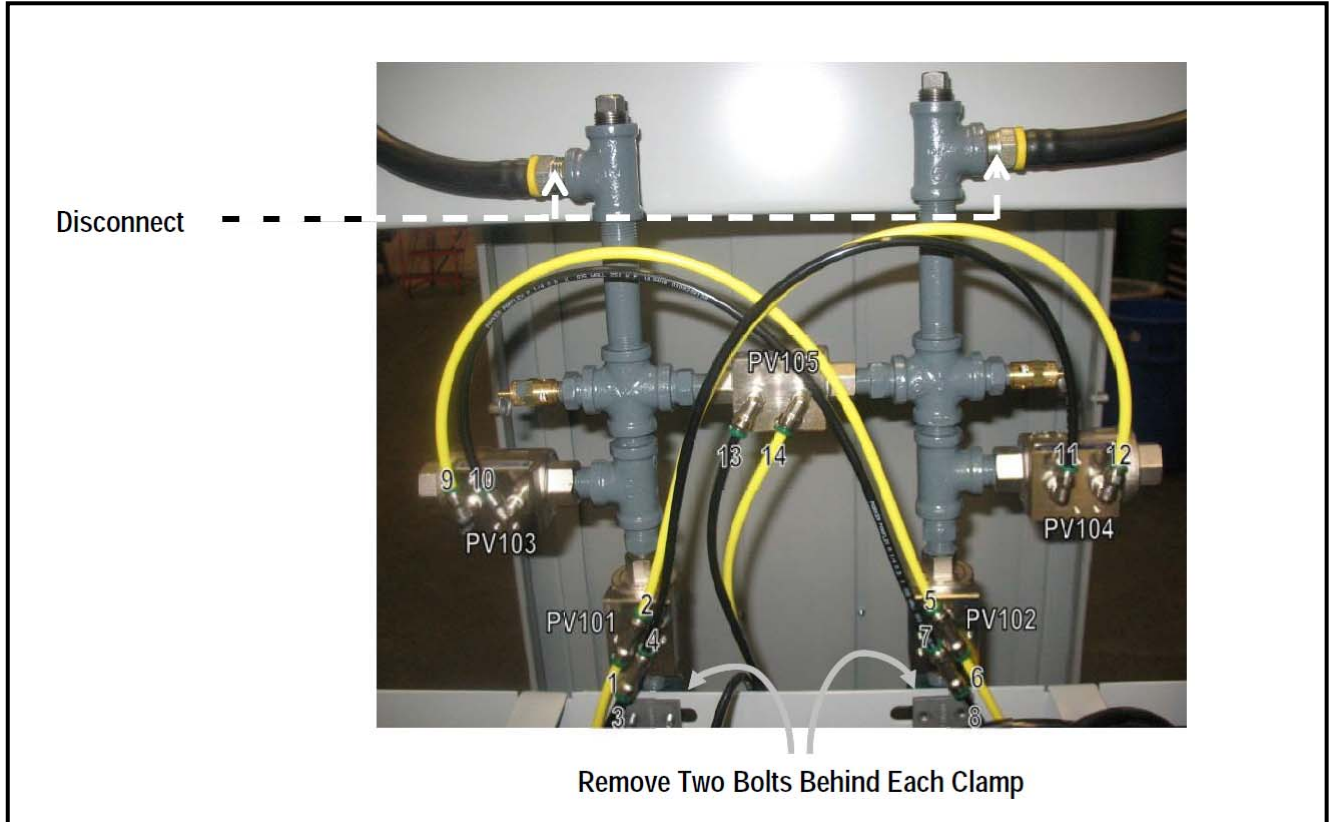

Figure 11: AGS200/AGS400 Top Manifold - Label All Tubing connections
- iii. Disconnect tubing from elbows and tees - all 14 (Figure 11).
- iv. Remove clamp hex bolts that secure manifold. Ensure that manifold is supported while removing clamp bolts (Figure 11).